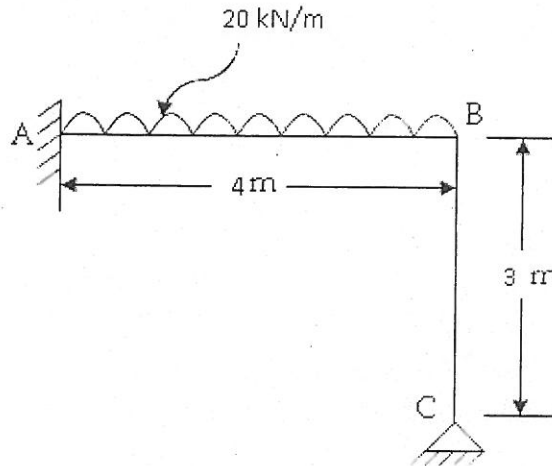

Fig.1
Q.5 Analyze a frame loaded as shown in fig.1 by using flexibility method. Also draw B.M.D. 17